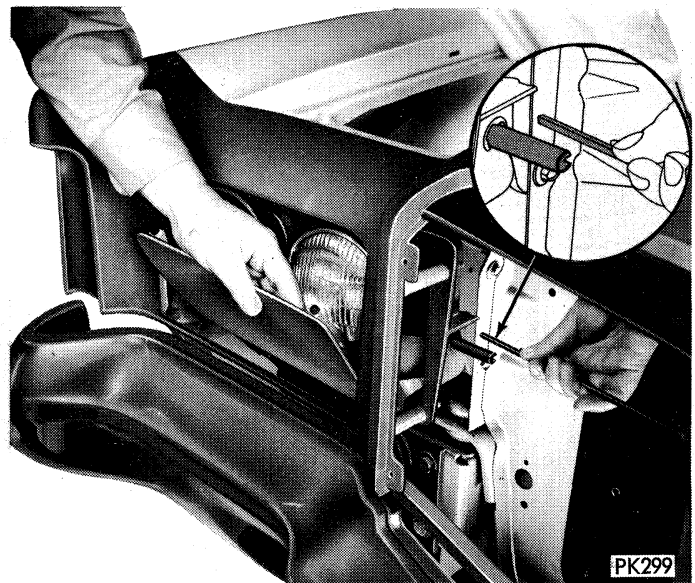

Fig. 8—Removing Torsion Bar from Door Crank (Typical)
- (1) Disconnect motor leads at harness connector.
- (2) Rotate motor hand wheel clockwise if doors are closed; or counterclockwise if doors are open; until headlamp doors are at halfway open position (indicator lug on motor switch plate and lug on gear near rectangular hole are in alignment).
- (3) Compress torsion bar to headlamp door crank clip and slide clip from crank.
- (4) Force torsion bar from crank arm slot by wiggling door up and down with one hand while pulling the bar out from slot with your other hand (Fig. 8).
- (5) Disconnect headlamp wiring.
- (6) Remove the inboard sealed beam unit.